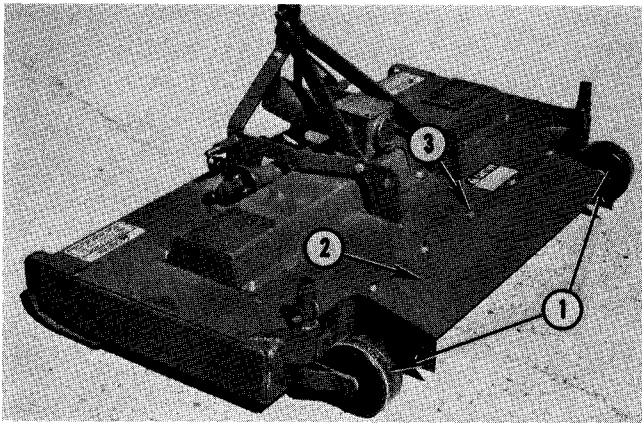

Fig. 51 — Mower Deflector
1. Install gauge wheels and deflector chute as shown in Fig. 51, with chute bolt heads down.